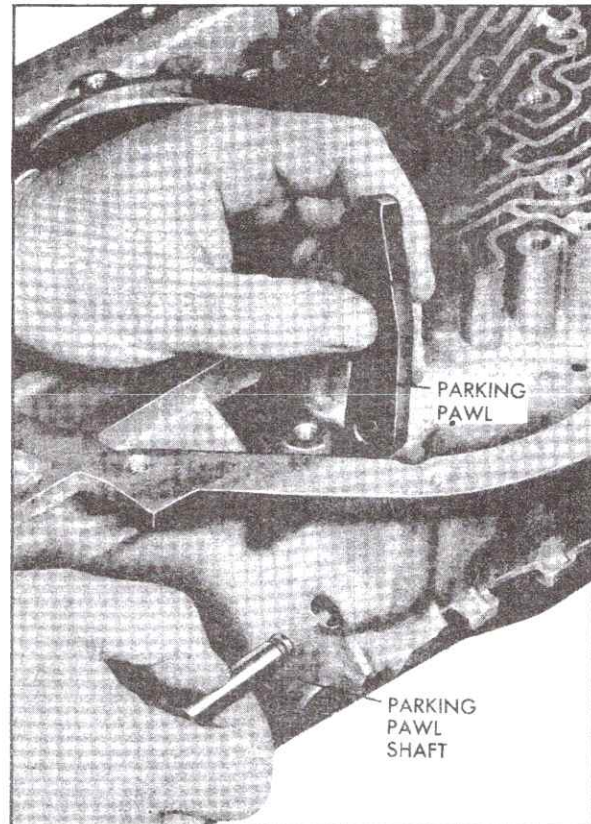

Fig. 7-90 Installing Parking Pawl and Shaft
1. Install parking pawl, tooth toward center of transmission, and install parking pawl shaft, Fig. 7-90.